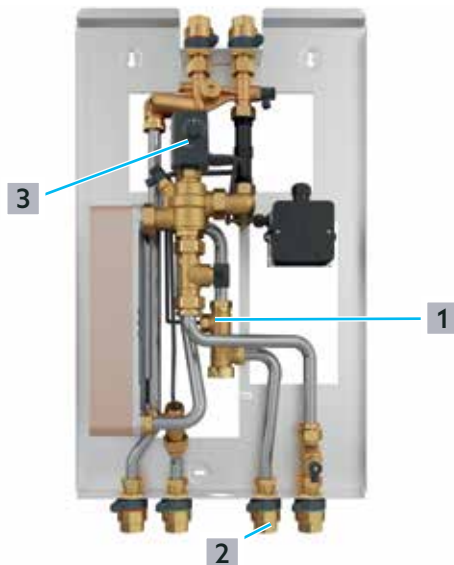

Fig. 22: Inspecting and cleaning the volume flow sensor
- 1 Close the ceramic disc valve - cold water inlet ((2) in Fig. 22 on page 27) in the potable water circuit.